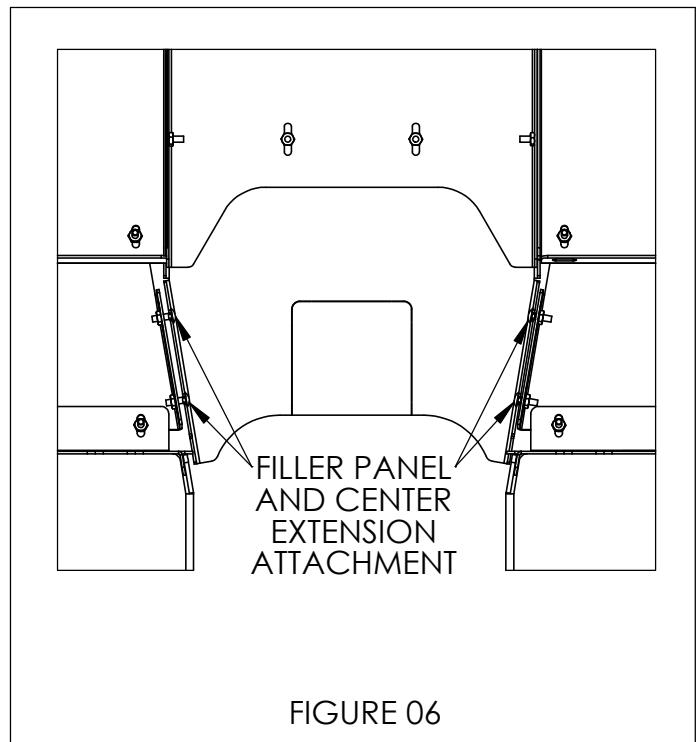

FIGURE 06
13. FINALIZE ADJUSTMENTS AND TIGHTEN THE CENTER EXTENSION. ADD #10-32 HARDWARE TO SECURE THE CENTER EXTENSION TO THE FILLER PLATES AND FULLY TIGHTEN (FIGURE 06).